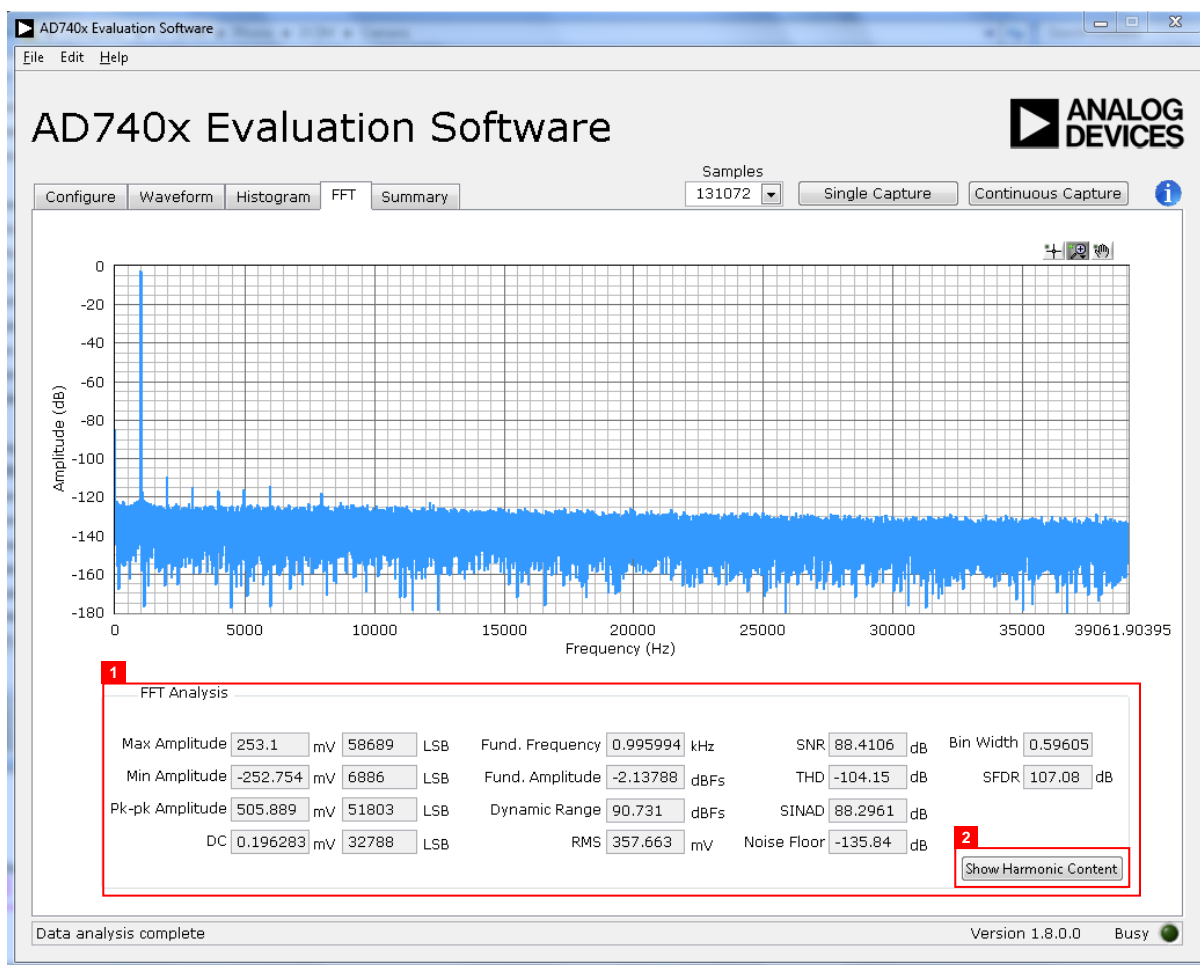

Figure 18. FFT Capture Tab
Figure 18 shows the FFT tab. This feature tests the traditional ac characteristics of the converter and displays a fast Fourier transform (FFT) of the results.
Figure 18 displays the spectral analysis results of the captured data.
- The **FFT Analysis** box displays the performance data: SNR, THD, SINAD, dynamic range, and noise performance along with the input signal characteristics (see label 1 in Figure 18).
- Clicking **Show Harmonic Content** (labeled 2 in Figure 18) displays the frequency and amplitude of the fundamental in addition to the second to fifth harmonics.